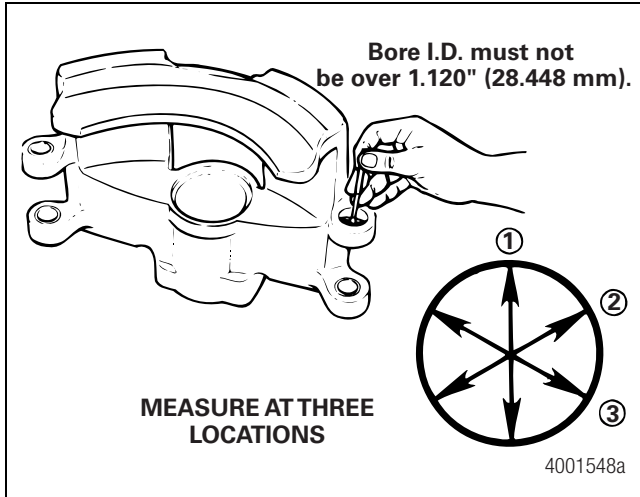

Figure 4.5
2. Measure the diameter of the bore at three locations. The diameter must equal 1.118-1.120-inches (28.397-28.448 mm). When any of the bores exceed 1.120-inches (28.448 mm), you must replace the caliper. Figure 4.5.